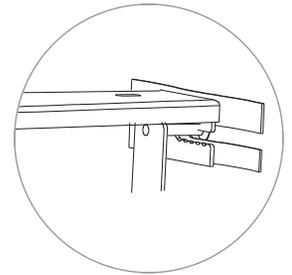

Fig.2 Wiring
CONNECTING THE WIRES (Fig. 2)
- Connect the fixture input wires to the junction box wires as shown in Fig. 2 using wire connectors (D) provided. Ensure wire connectors are secure. Connect the fixture's ground wire to the ground in the junction box; this will be either a green wire or a bare copper wire. After fixture is wired to house wires, tuck wires carefully inside the junction box.